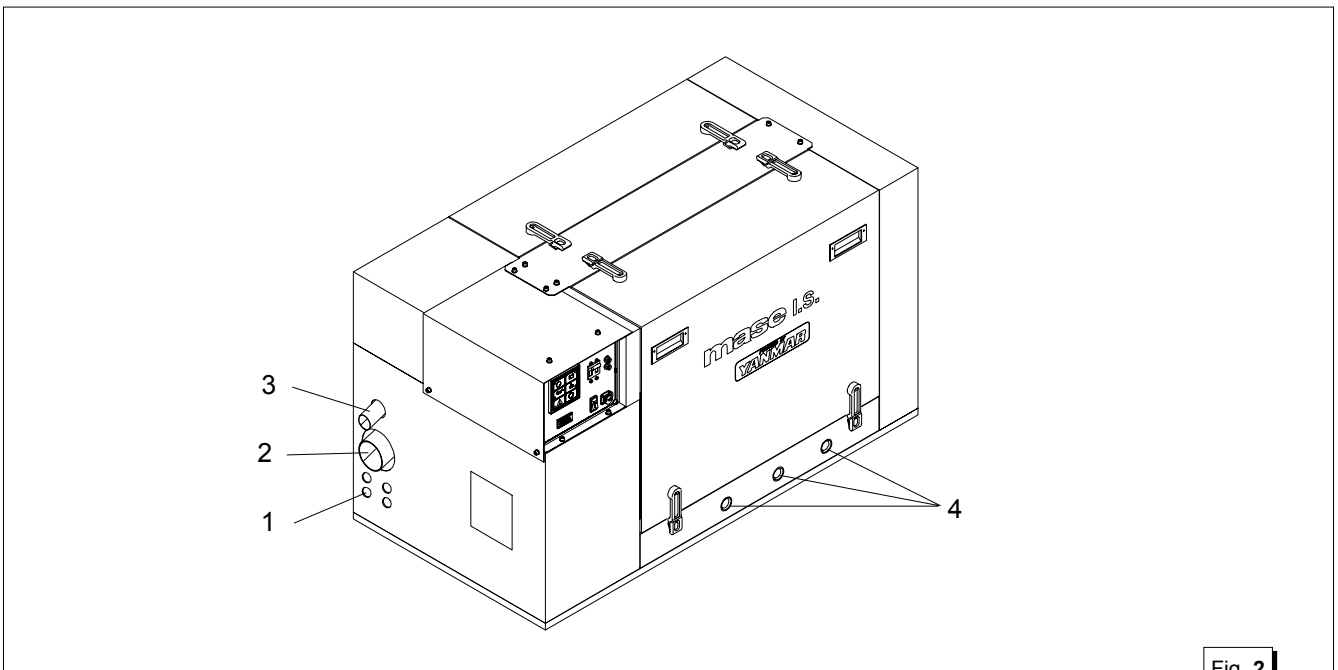

Fig. 2
The amount of air required for combustion passes through four holes on the exhaust side (fig. 2 ref.1). Make sure these holes are always free.